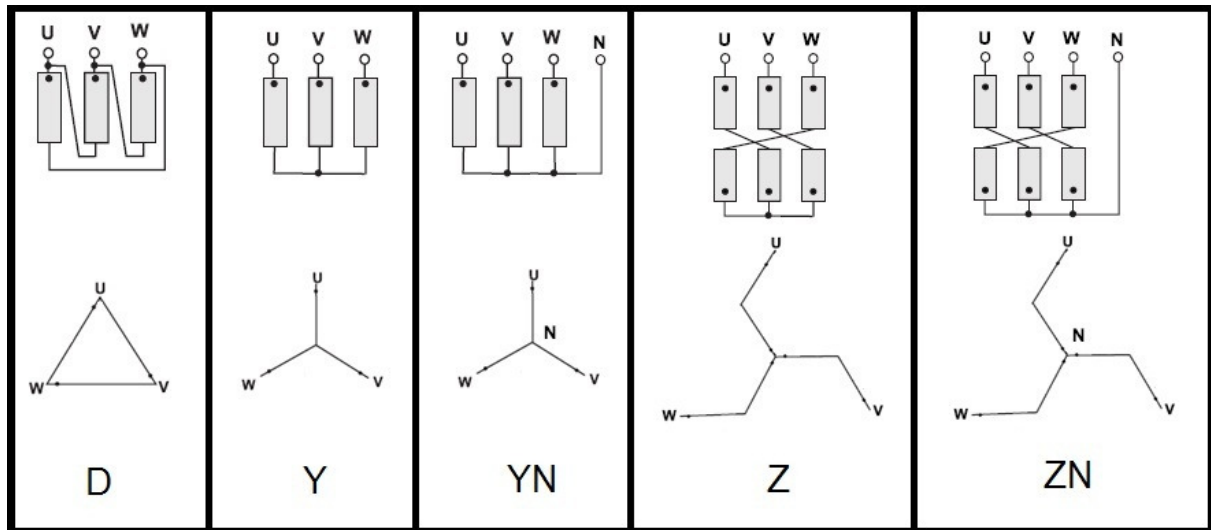

Figure 1: Diagram of different winding connections
1. Recognizing configurations of HV and LV windings. This is easier part and the Figure 1 can help in determining if the primary and/or secondary windings are connected in delta, wye, or interconnected star.
Let's take a look at the example below. Figure 2 illustrates a typical transformer nameplate with ANSI markings. The vector diagram is marked with red rectangle and zoomed in on the right-hand part of the figure, for better visibility. Comparing to the Figure 1, it can be seen that HV windings are connected in delta (D), while LV windings are connected in wye with neutral point accessible (yn).